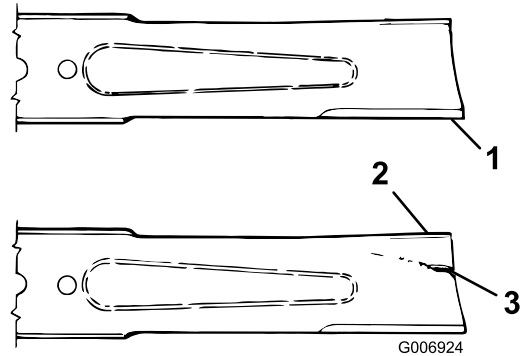

Figure 15
2. Examine the cutting ends of the blade carefully, especially where the flat and curved parts of the blade meet (Figure 15). Since sand and abrasive material can wear away the metal that connects the flat and curved parts of the blade, check the blade before using the machine. If wear is noticed (Figure 15), replace the blade; refer to Removing the Cutter Blade.
If the blade is allowed to wear, a slot will form between the sail and flat part of the blade (Figure 15). Eventually a piece of the blade may break off and be thrown from under the housing, possibly resulting in serious injury to yourself or bystanders.